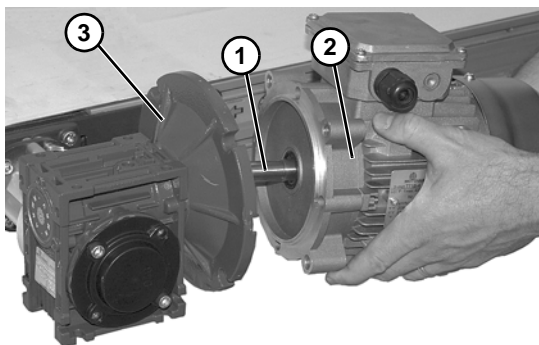

Figure 19
10. Apply anti-seize to motor shaft before assembling to gearbox. With key (Figure 19, item 1) in keyway, slide motor (Figure 19, item 2) and gear reducer (Figure 19, item 3) together.